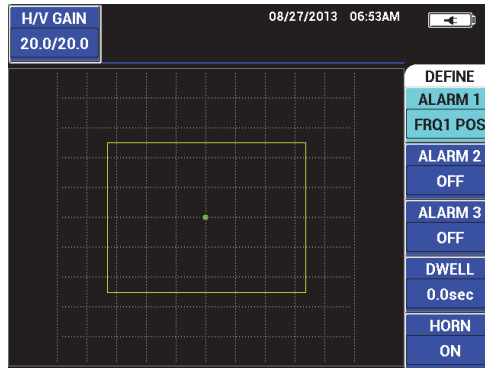

Figure 5-241 Alarm polarity
3. Use the knob to select the alarm's polarity; **FRQ1 POS** enables a positive polarity alarm and **FRQ1 NEG** enables a negative polarity alarm (see Figure 5-241 on page 300).